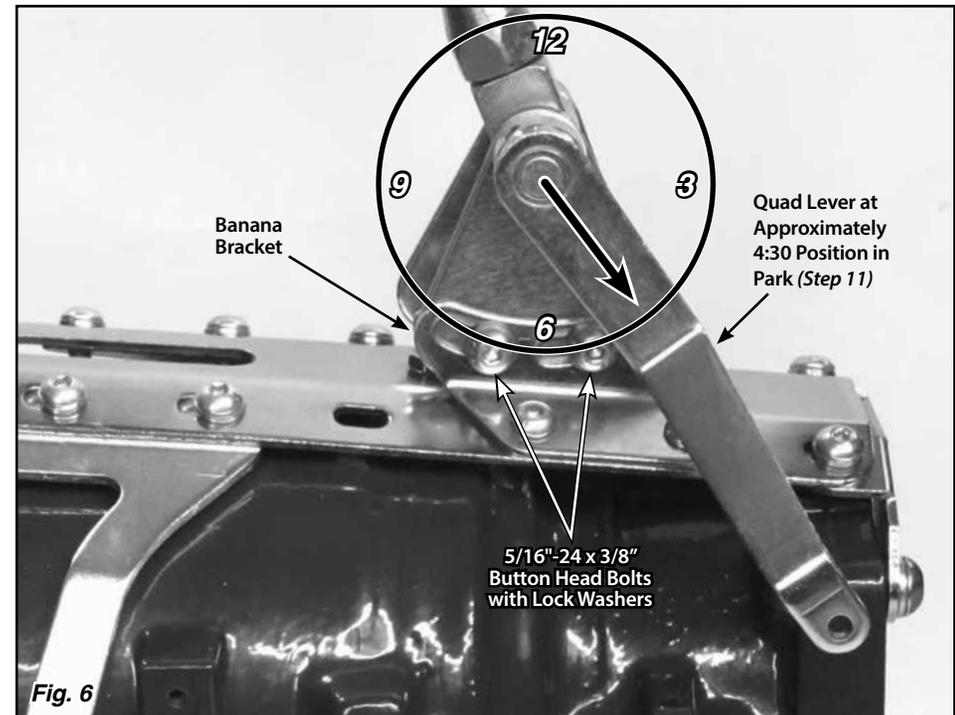

Fig. 6
**Step 10:** Make sure the two 5/16"-24 x 3/8" button head bolts with lock washers that attach the driver side banana bracket to the shifter assembly (in the curved, slotted holes) are tight. Before tightening the shifter assembly down to the main plate, move the shifter lever through all the gear positions. Make sure that the shifter lever and knob will not come in contact with the dash or the seat. The shifter assembly can be tilted forward or backward if needed by loosening the 5/16"-24 x 3/8" button head bolts in the curved, slotted holes in the driver side banana bracket. **Fig. 6**
**Step 11:** Put the shifter lever into the Park position and check the position of the quad lever. It will need to be pointing to about the 4:30 position. If it is not, loosen the set screw in the top of the quad lever with a 1/8" Allen wrench and slide the quad lever off of the shaft. Reposition it on the shaft at approximately the 4:30 position, and retighten the set screw. **Fig. 6**
Double check to make sure that the bolts connecting the **driver** side banana bracket to the shifter assembly are tight. **Fig. 6**